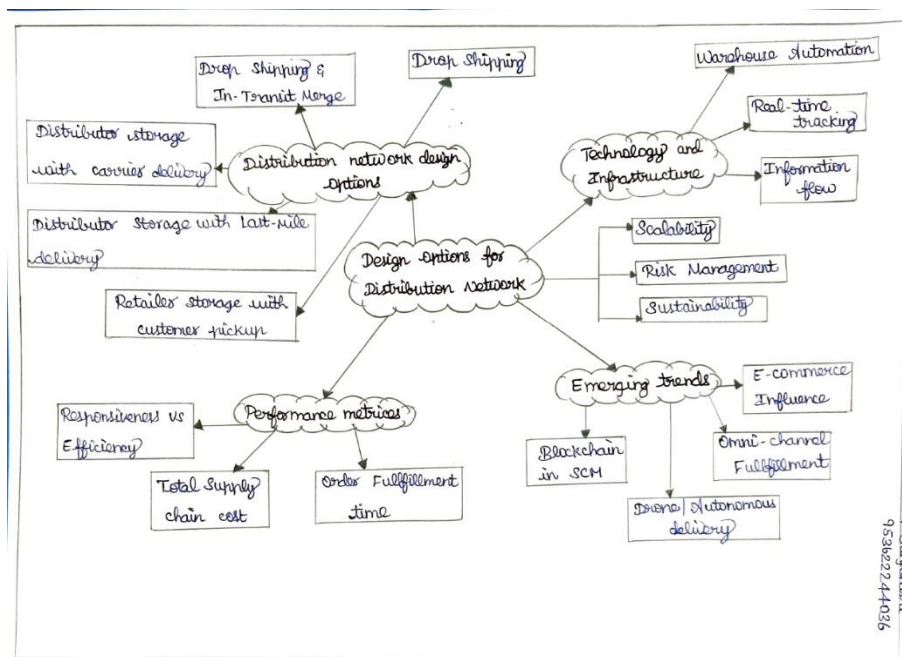

Figure 1: Mindmap by Sanjanasri T, III CSBS
- The mind maps drawn by the students are shown in Fig 1 & 2.